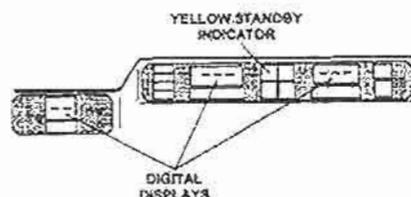

Figure 2-16. Standby mode.
d. Continue to observe the control panel. The following control panel actions will automatically occur (fig 2-16).
(1) The three digital displays show "- - -."
(2) The yellow "STDBY" indicator illuminates.